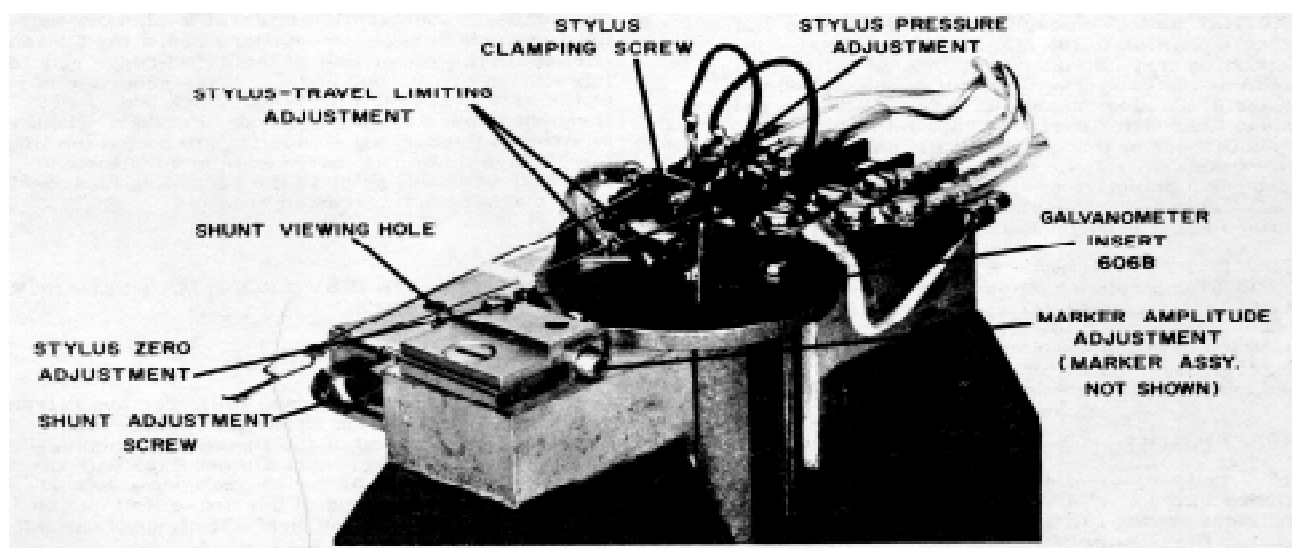
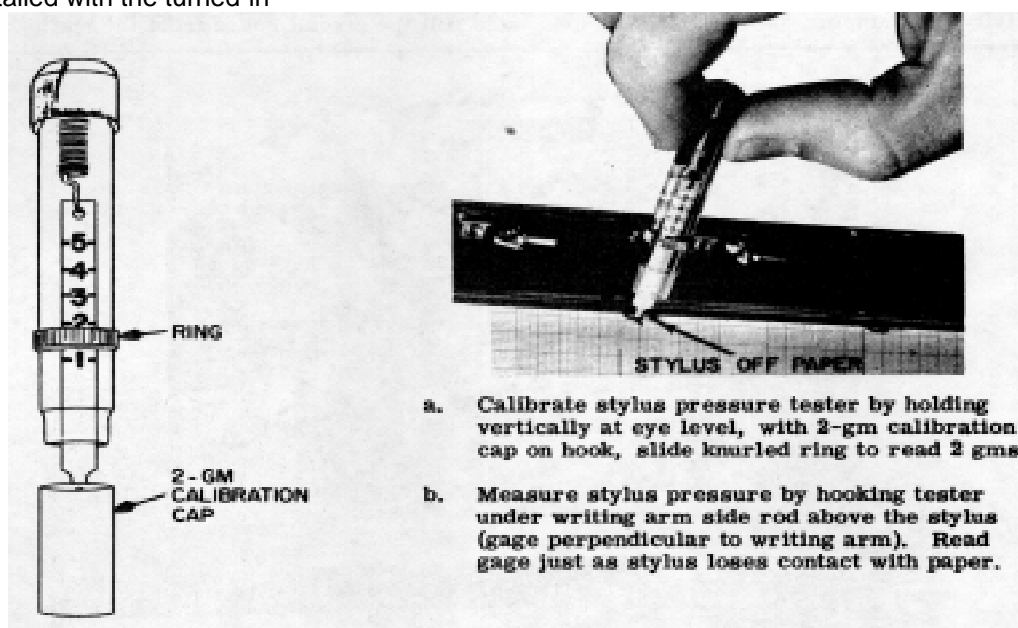
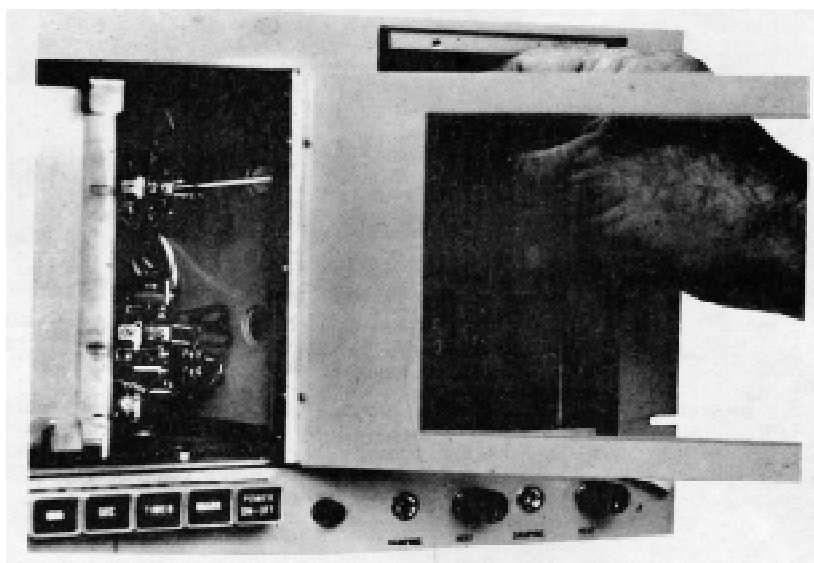

Figure 5-2. Stylus Adjustment Screws and Limits
Figure 5-8. Calibrating and Measuring Stylus Pressure
Figure 5-9. Stylus Pressure Adjustment
f. Writing Stylus. Remove each stylus by loosening clamping screw and disconnecting the stylus heat wires (see Figure 5-2); lift stylus from
5-43. Check stylus pressure with the calibrated pressure gage SN 14015A (see Figure 5-8). Lift the stylus at the center of the heating element support wire, with the gage perpendicular to the writing arm. Run the recorder at 5 mm/sec speed. Lift the stylus with the gage until the stylus stops writing on the paper. The gage should read between 2 and 2-3/4 grams. If the pressure is not correct, adjust the stylus pressure. The stylus pressure adjusting screw is located on the top of the galvanometer assembly (see Figure 5-2). Remove the preamplifiers, and insert screwdriver through the access holes shown in Figure 5-9. Turn clockwise for less pressure and counterclockwise for more pressure. The adjustment should be made 1/4 turn at a time. Check that the stylus remains level with the paper for correct definition.
5-45. The mechanical stops prevent the stylus excursions from exceeding 2 mm beyond the channel edge or 1 mm toward an adjacent marker arm. Set these limits by loosening the stylus Travel Adjustment screw with a screwdriver, setting the stops and tightening the screw. Refer to Figure 5-2 for screw location.